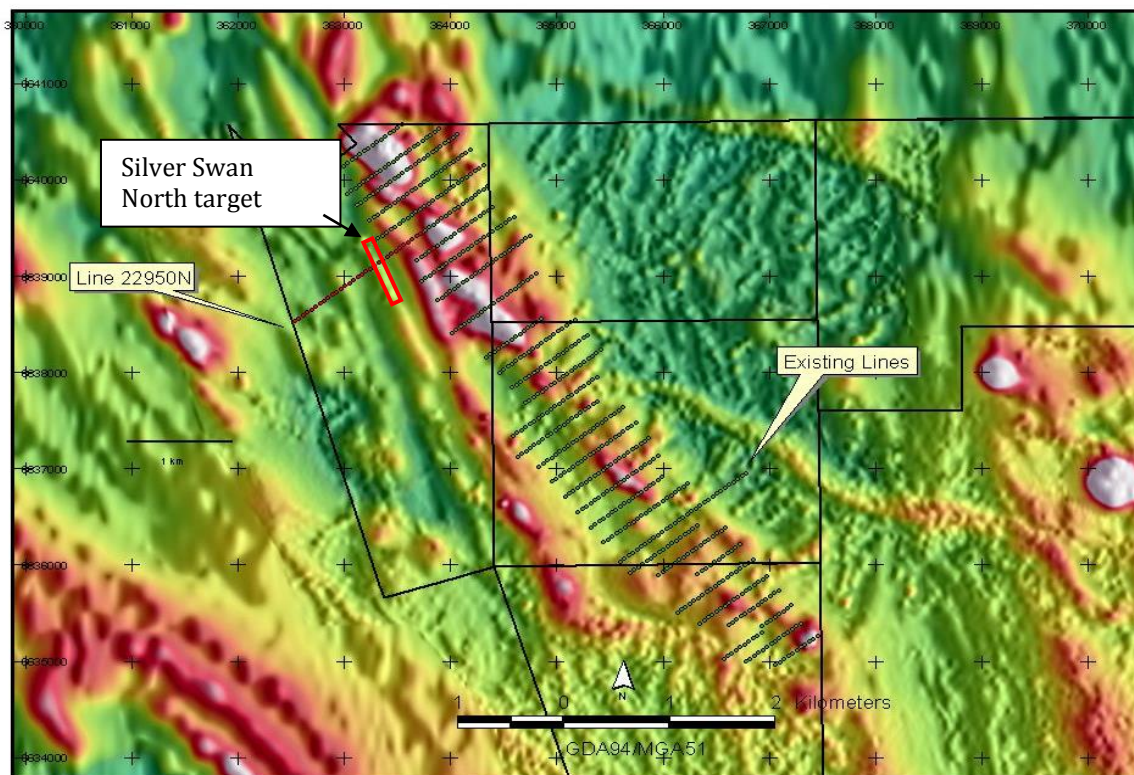
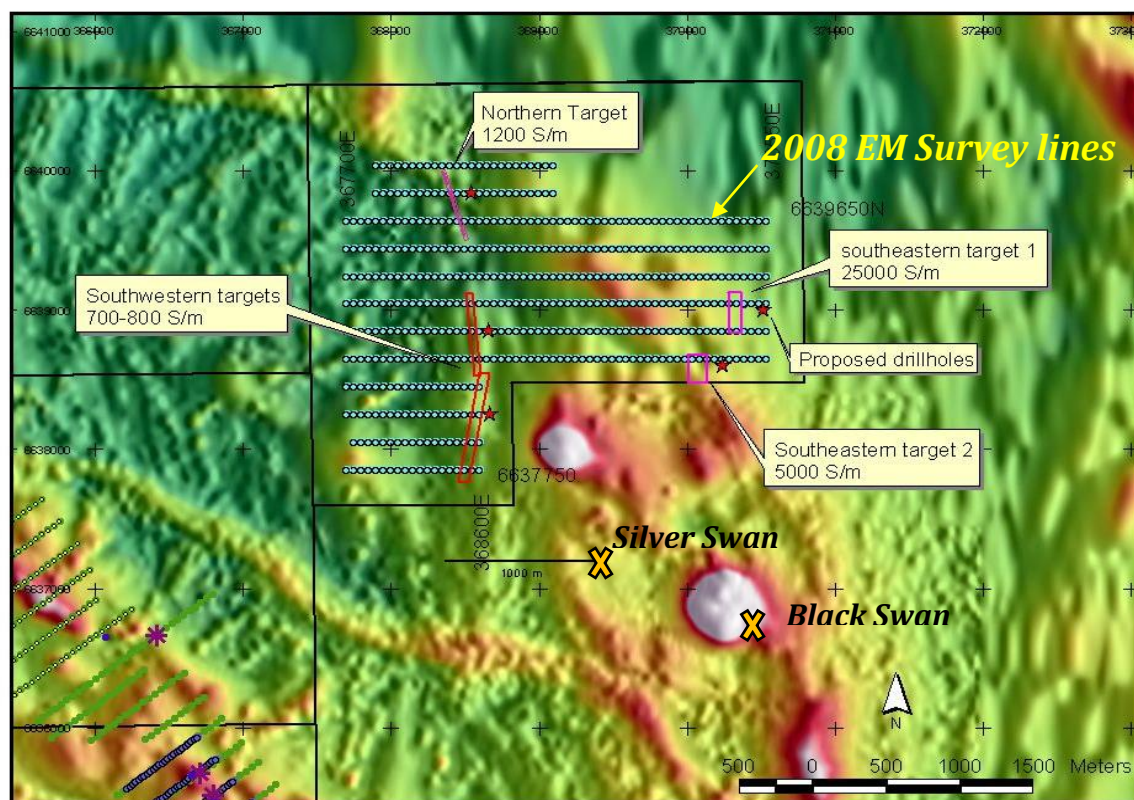

Figure 1 Location of Silver Swan North 2008 ground EM line (red) and earlier EM Survey lines (green) on a pseudo colour reduced to pole aeromagnetic image.
Figure 2 Plan map of Silver Swan Northeast ground EM targets on a pseudo colour reduced to pole aeromagnetic image.
- An appraisal of an historical 2008 ground electro-magnetic (EM) geophysical survey conducted on Lawson Gold Ltd’s ground holdings has highlighted 6 conductive targets that have not been drill tested (Table 1).
- The anomalies are associated with prospective Archean ultramafic host rocks and occur in close proximity to the Black Swan Nickel and Silver Swan Nickel deposits (Figure 2).
The EM survey comprises a single northeast-southwest orientated line with 32 soundings, collected at the silver Swan North Prospect (Figure 1) and a grid of 12 east-west lines on the Silver Swan Northeast Prospect for a total of 474 soundings (Figure 2). The Northeast Prospect area is within 2km and along geological strike, to the Silver Swan and Black Swan Deposits (Figure 1) which contain approximately 185,000t nickel (production and resources). The survey was conducted by Absolute Geophysics using their cutting edge total field EM system. The purpose of the survey was to identify potential nickel mineralization which is typically hosted in massive sulphides and is therefore conductive. A summary table of the 6 EM targets and description of the best four anomalies, Silver Swan North, Southeastern 1 and 2 and Northern, are described in more detail below.
Modelling of this response indicates a conductive body at a depth of 155 metres. The modelled dip of the body is 70 degrees and from the previous ground EM data which picked up the eastern margin of this response (green survey lines (Figure 1)), the strike extent is long and is expected to be over 1 km. The conductivity thickness product of this body is modelled at 6000 S/m. The body is oriented to the northwest and has a long modelled depth extent of some 700 metres.